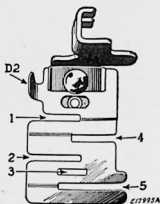

FIG. 51
The distance from the line of stitching to the edge of the material in the slots is regulated by moving the lug **D2**, **Fig. 51** to the right or left.
- (1) Insert one of the laces in slot 1 of the edge-stitcher and the other in slot 4, **Fig. 51**.
- (2) Adjust the lug **D2** until the edges to be joined are caught by the stitching.
- (3) Slightly overlap the edges of the lace while stitching to keep them against the ends of the slots.
- (4) Loosen both thread tensions to avoid puckering of fine lace.
- (1) Fold the edge of the material to which the lace or ribbon is to be sewn and insert it in the slot 1, **Fig. 51** of the edge-stitcher.
- (2) Insert the lace or ribbon in the slot 4 of the edge-stitcher and proceed to sew.
- (3) Cut away the surplus folded material close to the stitching.
- (1) Cut the piping bias and twice the width of the slot 3 so that it can be folded once.
- (2) Insert the piping with its folded edge to the left in slot 3 and the edge to be piped in slot 4, **Fig. 51.**
- (1) Place the garment under the edge-stitcher and the tape in slot 1 or 4, **Fig. 51.**
- (1) A wide hem may be stitched evenly on sheets, pillow slips, etc., with the edge-stitcher after the hem has been measured and the edge turned.
- (2) Insert the edge in slot 5, Fig. 51, and adjust the lug D2 to stitch as close to the edge as desired.
- (1) To make a uniform width French seam, insert the two edges to be joined, wrong sides together, in slot 1 or 2, Fig. 51 and stitch close to the edge.
- (2) Fold both right sides together and insert the back of the seam in the slot 1 and stitch, allowing just enough margin to conceal the raw edges.
- (1) Fold and crease the material for the desired width of tuck.
- (2) For succeeding tucks, fold the material the desired distance from the previous tuck, running the fold lengthwise over a straight edge, then crease the folds.
- (3) Insert the creased folds in the slot 1, Fig. 51 and adjust the edge-stitcher to the right or left for the desired width of tuck. Use a light tension, short stitch and fine thread and needle.